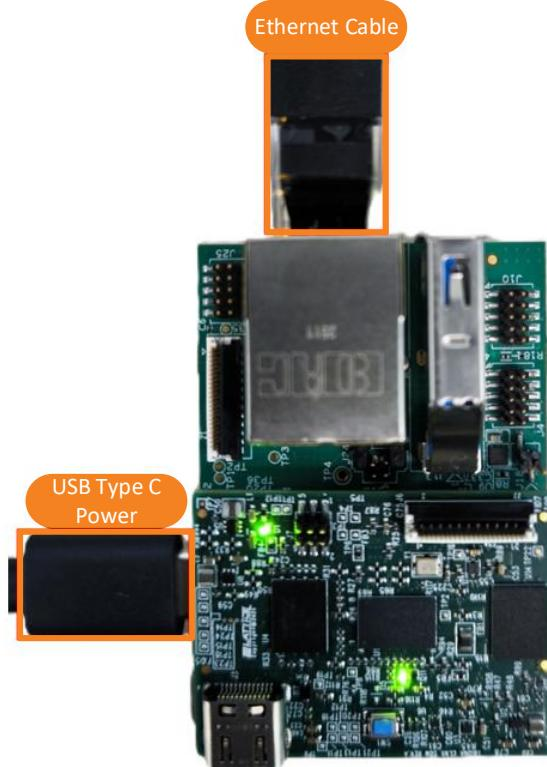

Figure 5.22. CrossLinkU-NX SoM with Ethernet Connection
1. Connect the CrossLinkU-NX SoM kit's LAN connection (shown in Figure 5.22) to the LAN port of the host PC directly using an Ethernet cable.
1. Connect the CrossLinkU-NX SoM kit's LAN connection (shown in Figure 5.22) to one of the LAN ports on the router.